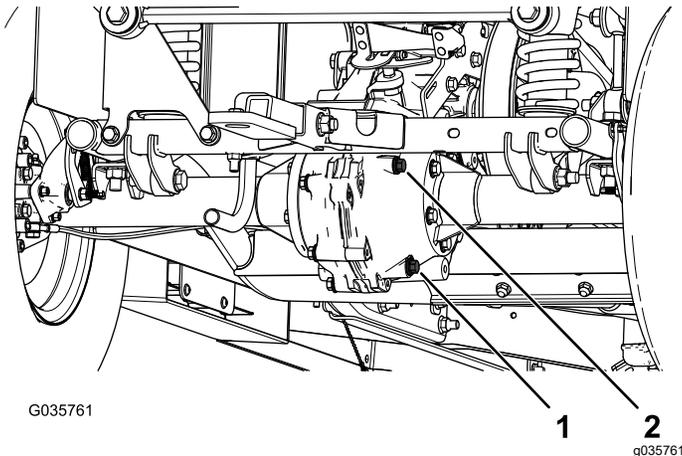

Figure 57
4. Remove the fill plug on the transaxle (Figure 57).
5. If the fluid level is low, remove the fill plug and add the specified fluid until it runs out of the hole (Figure 57).
1. Align a drain pan under the drain plug (Figure 57).
2. Remove the fill plug and the seal (Figure 57).
3. Remove the drain plug and the seal, and allow the fluid to drain completely (Figure 57).